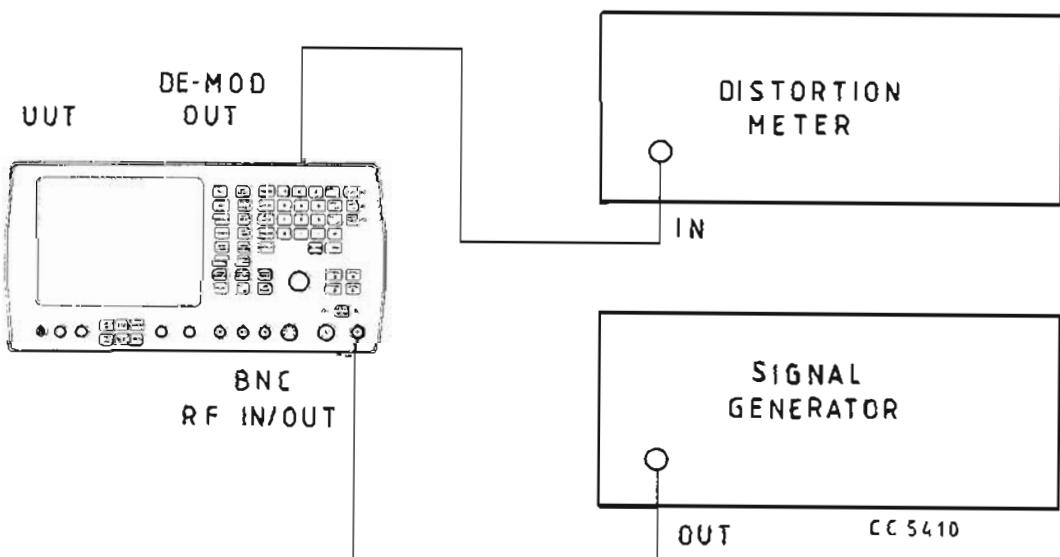

Fig. 3 Test equipment connections for modulation meter demodulation distortion performance checks
(1) Connect the equipment as shown in Fig. 3.